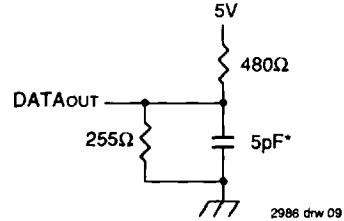

Figure 2. Output Load
4. Transition is measured $\pm 200\text{mV}$ from steady state voltage with specified loading in Figure 2.